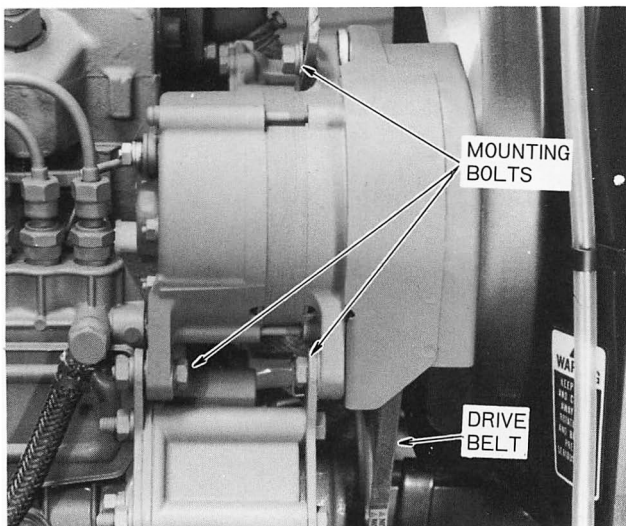

Figure 52 – Alternator Mounting Bolts
1. Loosen the alternator mounting bolts, Figure 52.